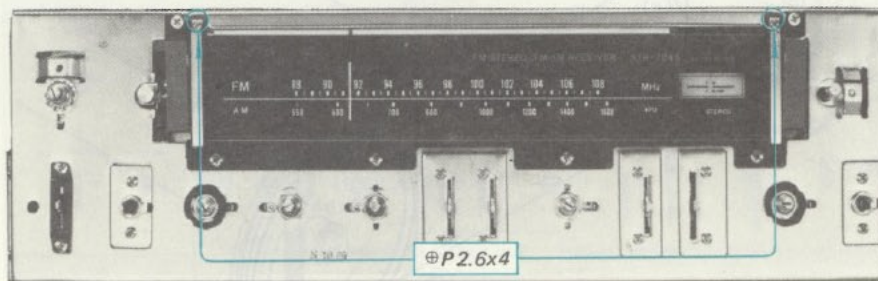

Fig. 2-11. Dial scale removal
3. Remove the two screws ($\oplus P2.6 \times 4$) securing the dial-scale holder to the front subchassis as shown in Fig. 2-11.